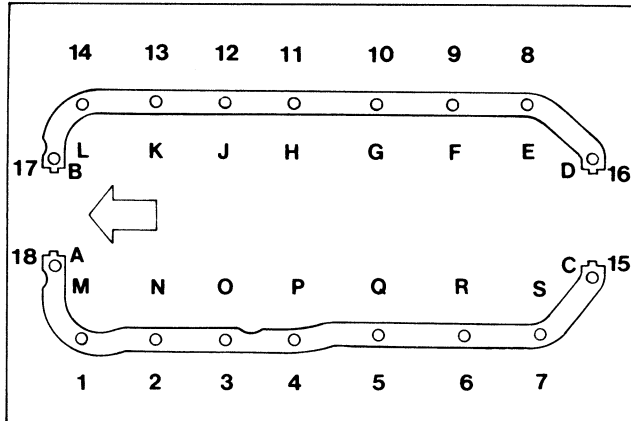

FIG. 50 Oil Pan Bolt Tightening Sequence
25. Coat the block surface and the oil pan gasket surface with oil resistant sealer. Position the oil pan gaskets on the cylinder block. Position the end seals with the chamfered ends into the grooves, again using an oil resistant sealer at the mating areas. Position the oil pan and tighten the bolts evenly to specification following first the alphabetical, then the numerical sequences shown in Figure 50.